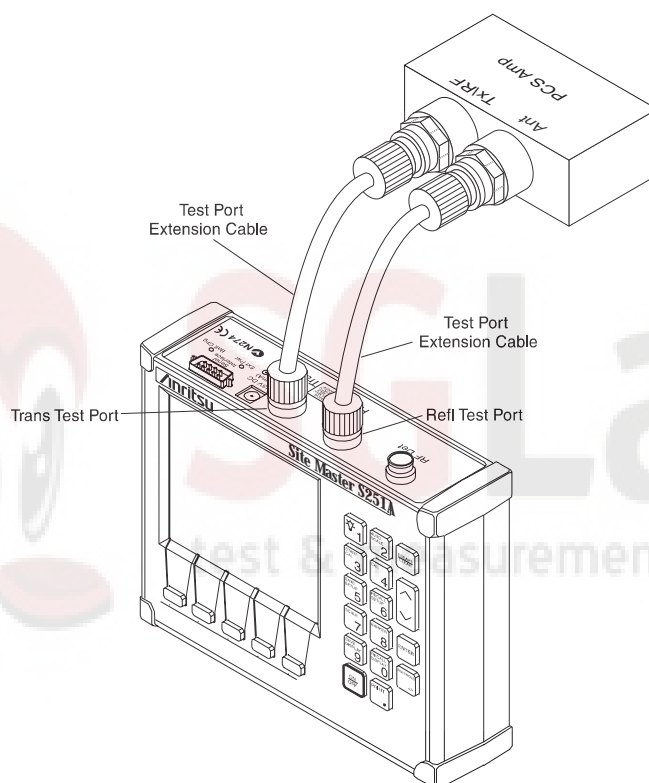

Figure 3-14. Amplifier Gain Measurement Setup
**Step 17.** Connect the amplifier to the test port extension cables as shown in Figure 3-14.